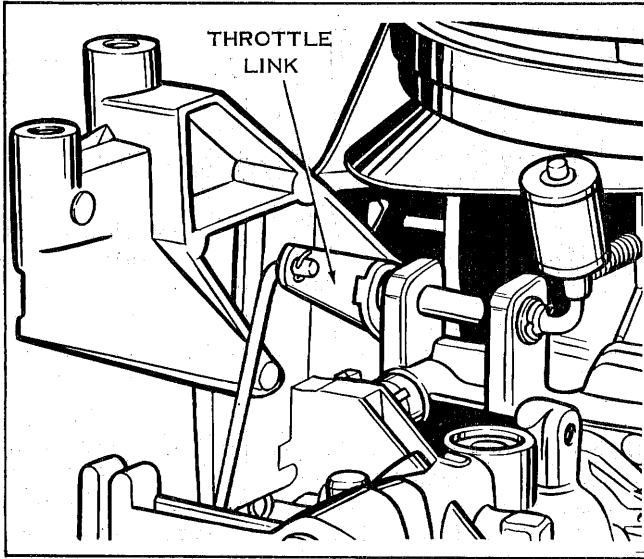
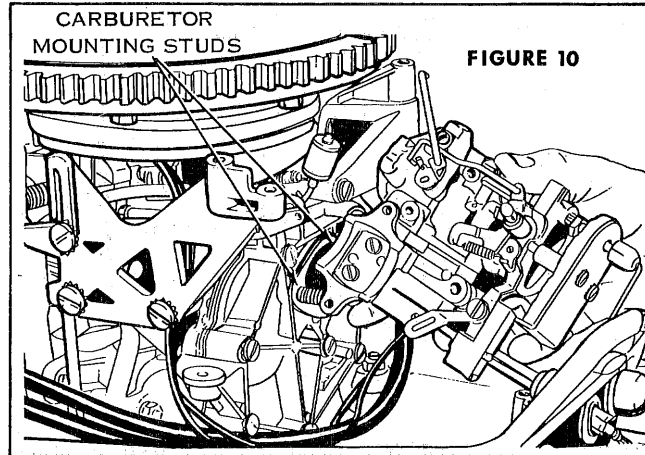

FIGURE 9
FIGURE 10
5. Next, disconnect upper end of throttle link from cam follower arm. See figure 9. Then remove the two carburetor nuts and slide carburetor forward and off of manifold studs. Disconnect fuel line from carburetor. See figure 10.